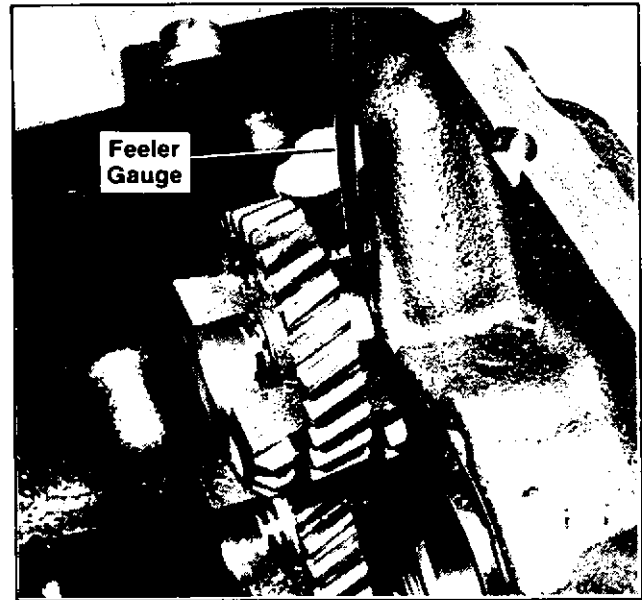

Figure 8-2. Checking Balance Gear End Play
2. Slip one .010" spacer on stub shaft over the 3/8" spacer, then install gear-bearing assembly on stub shaft (with timing marks out) - if assembly tool is not being used, do not install bottom gear until after the crankshaft is reinstalled. Proper gear end play (.002-.010") is attained with one .005" spacer, one .010" spacer and one .020" spacer, which are installed on the snap ring retainer end of the shaft. Install the thickest spacer (.020") next to the retainer. After installing retainer, recheck end play (see Figure 8-2), and adjust (add or subtract .005" spacers) if needed. (NOTE: Install retainer with rounded edge facing spacers.)